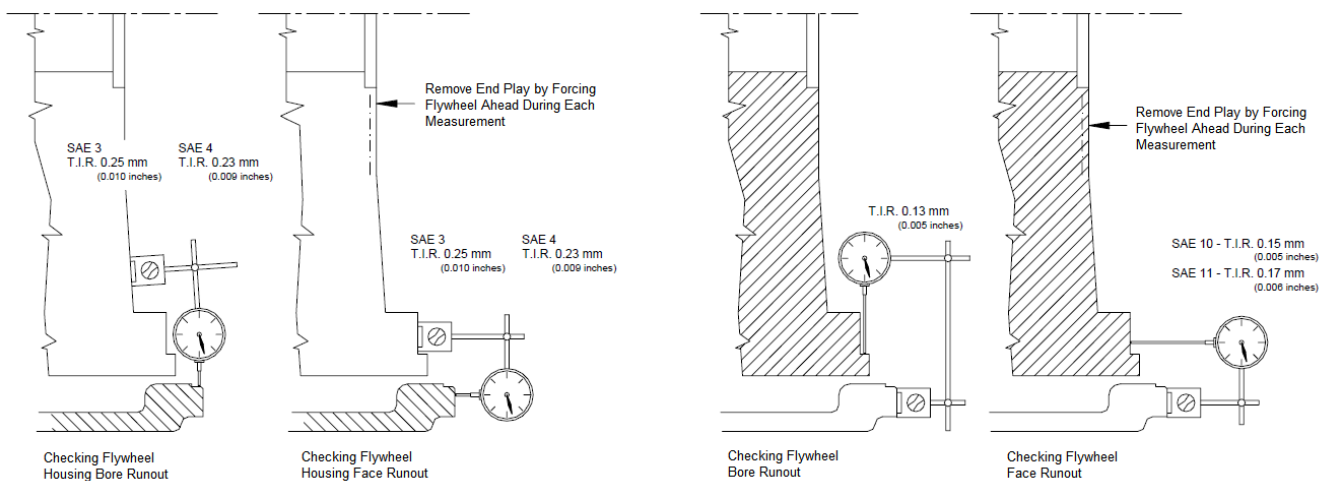

Figure 1: Checking that the flywheel runout is within SAE tolerances.
- 3.1 Check that the flywheel is within SAE tolerances (see Figure 1).